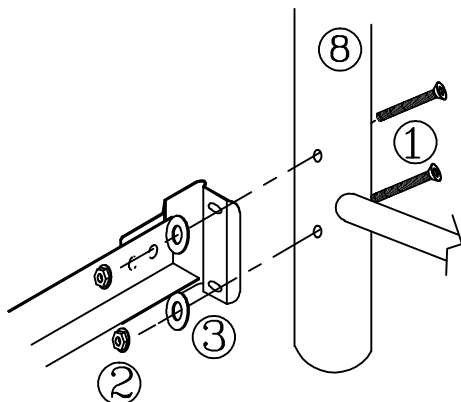

FIGURE 3
- Position footboard panel (8) and align holes in the post with holes in the frame bracket. (See figure 3)
- Place 2 screws (1) through holes located in footboard (8) post.
- Place a flat washer (3) first, and a nut (2) on each screw. Hand-tighten, DO NOT TIGHTEN screws all the way.
- Tighten all screws securely using the Allen wrench (4) and open wrench (9).